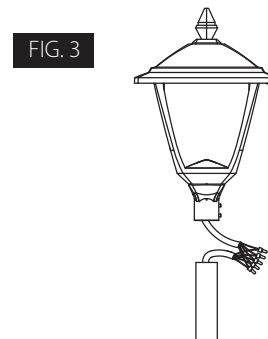

FIG. 3
2. Make electrical connections as shown in Fig. 3 and refer to wiring diagram (Fig. 19).